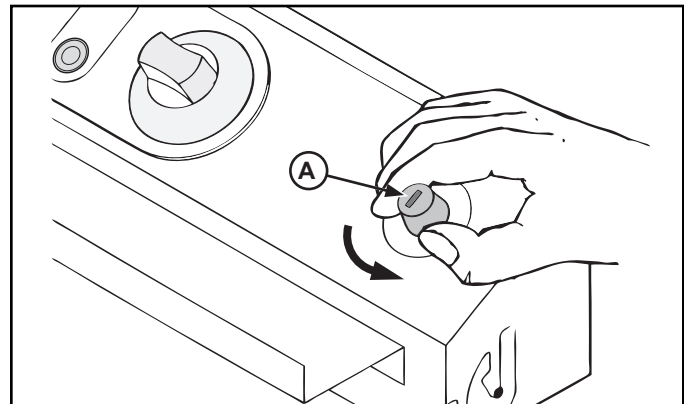

Figure 3. Switch Cover Removal.
2. Remove the switch cover (A) by unscrewing counterclockwise. See Figure 3.